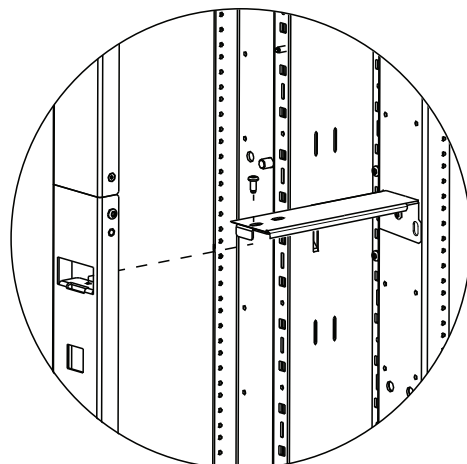

fig. 3
2. Attach End Panel Channel to the mounting brackets by inserting the mounting bracket flange into the End Panel Channel. Secure each with (1) M6 screw. See fig. 3.